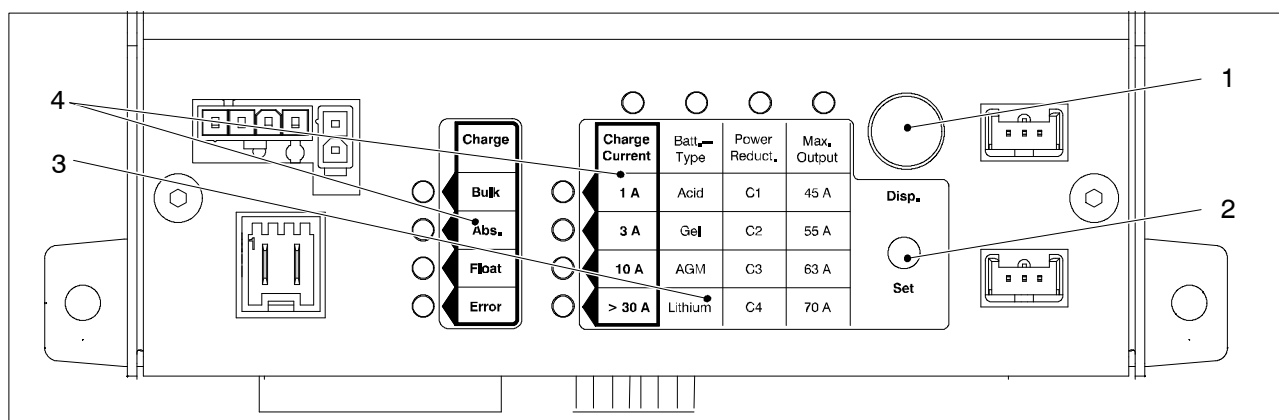

Fig. 11 Control and display panel for adjustments and display
- Display of the current charge and device statuses (Figure 11, Pos. 4), charge cycle and charge current
- On request, display of the current settings (Figure 11, Pos. 3) Battery type "Batt. Type", power reduction characteristic "Power Reduct." and maximum possible output current "Max. Output"
The current settings are displayed using the 4 x 4 matrix on the top of the device (Figure 11, Pos. 3). The top LED line specifies which value it is. The left LED column next to the matrix shows which value is currently set.
- Briefly press the "Display" (Disp.) button – Figure 11, Pos. 1.
- Briefly press the "Display" (Disp.) button again – Figure 11, Pos. 1.
- ▶ Briefly press the "Display" (Disp.) button – Figure 11, Pos. 1.
- ▶ Within 6 seconds, press the "Set" button (Figure 11, Pos. 2) for longer than 3 seconds.
- ▶ Keep pressing the "Set" button (Figure 11, Pos. 2) until the LED of the battery type required flashes:
- ▶ Press the "Set" button (Figure 11, Pos. 2) for longer than 3 seconds.
- ▶ Keep pressing the "Display" (Disp.) button (Figure 11, Pos. 1) until the LED above the "Power Reduct." column lights.
- ▶ Keep pressing the "Set" button (Figure 11, Pos. 2) until the LED of curve C1 ... C4 required flashes: